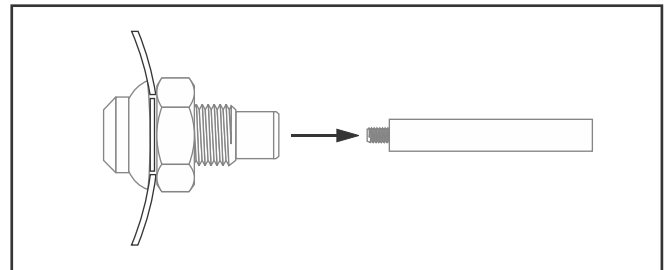

Fig. 46: Install Nut and Remove Handle
7. Install Nut: Next, slide the nut onto the handle and thread the nut until it contacts the duct. Final tightening is with a calibrated torque wrench to 15 in lbs. (Fig. 46)
8. Remove Handle: The removable handle may be left in place as a temporary plug. Remove the handle to access a 1/16" NPT tapped hole for installing a fitting of choice. The 3/8" Test Port may be counter drilled to a maximum bore of 3/8" ID for other installations. (Fig. 46)
7. Install Nut: Next, slide the nut onto the handle and thread the nut until it contacts the duct. Final tightening is with a calibrated torque wrench to 250 in lbs. (Fig. 46)
8. Remove Handle: The removable handle may be left in place as a temporary plug. Remove the handle to access a 1/4" NPT tapped hole for installing a fitting of choice. The 3/4" Test Port may also be drilled to a maximum bore of 3/4" I.D. for other installations. (Fig. 46)
7. Install Nut: Next, slide the nut onto the handle and thread the nut until it contacts the duct. Final tightening is with a calibrated torque wrench to 400 in lbs. (Fig. 46)
choice. The 2" Test Port may also be drilled to a maximum bore of 1-3/4" ID for other installations.(Fig.46)